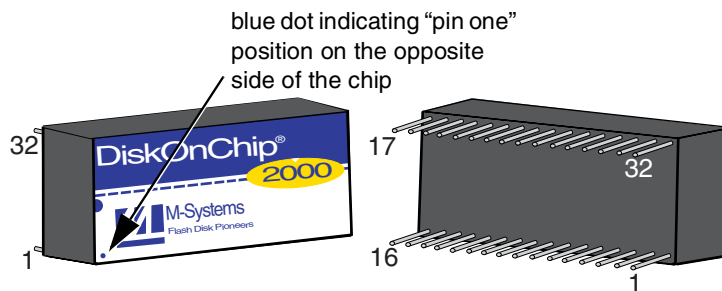

Figure 4: The memory expansion chip
9. Locate pin one on the memory expansion chip and on the socket. A blue dot indicates the position of "pin one" on the chip (see Figure 4).